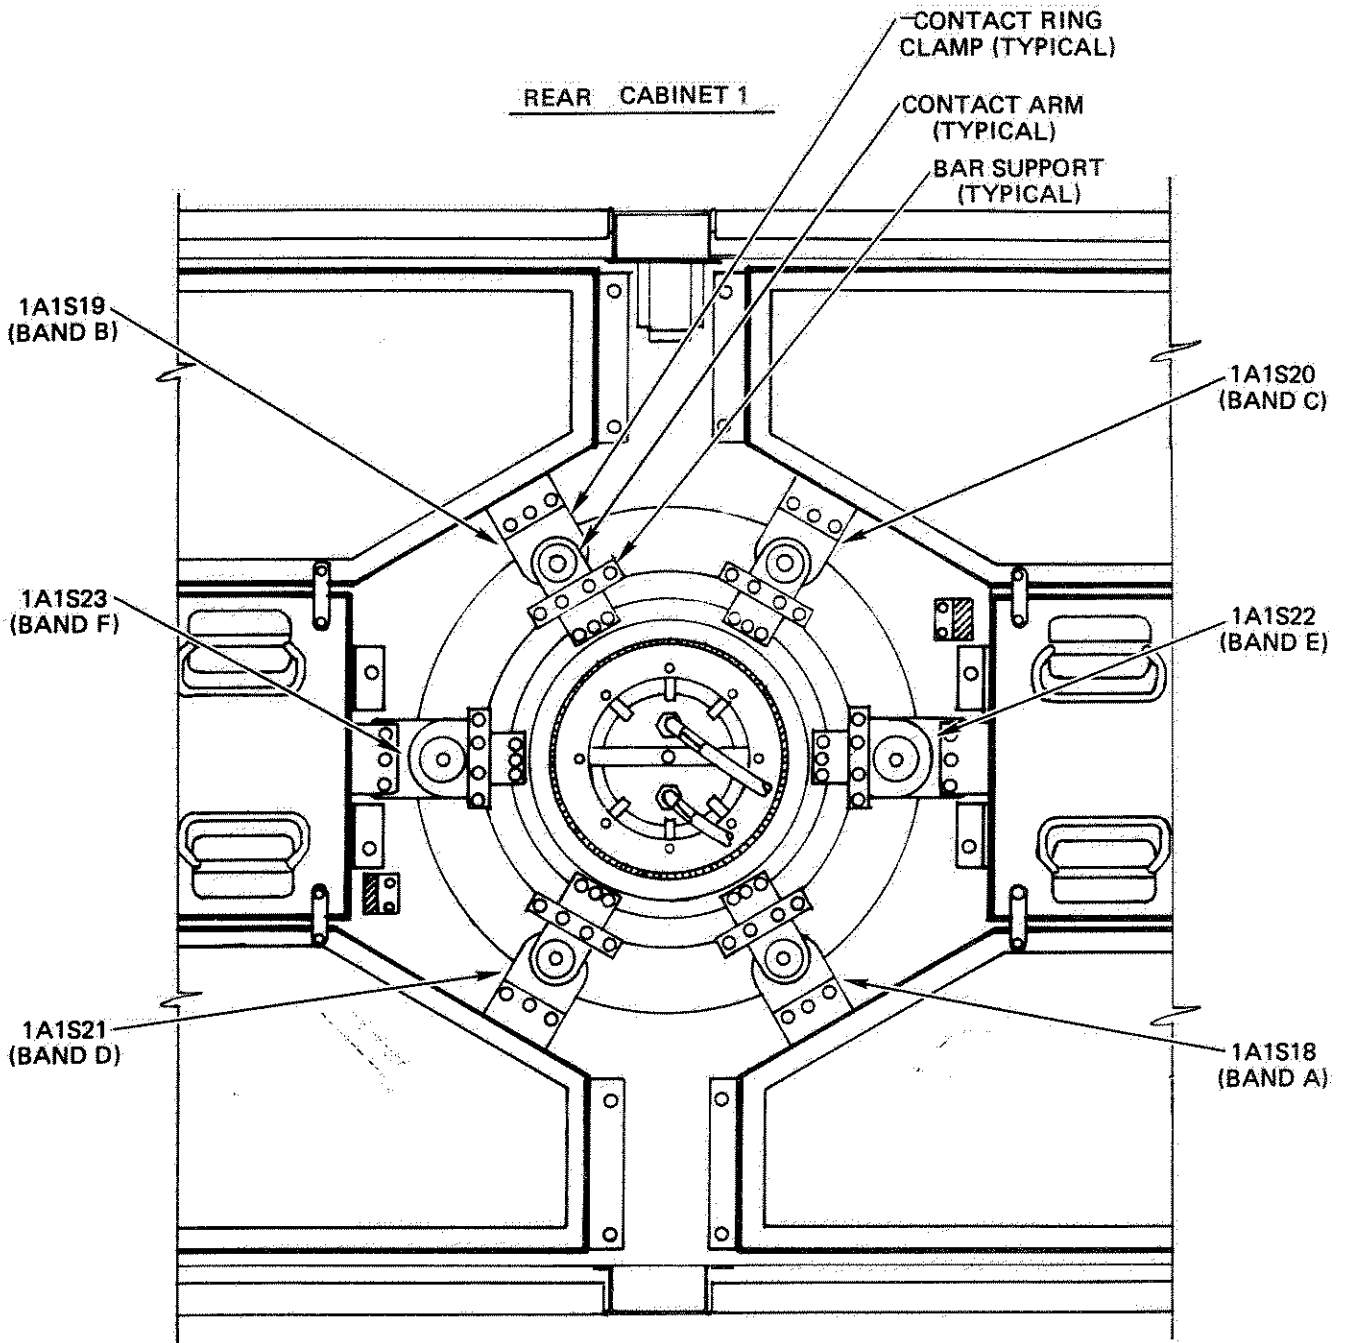

Figure 6-109. PA Band Switch Location, Top View
9. If spacing between upper ring contact and lower ring contact prevents brass gage block from being inserted, loosen set screws on contact ring clamp. Slide lower ring contact down until block can be inserted but fits snugly, with no lateral movement. Keep block in place and re-tighten contact ring clamp set screws. See Figure 6-109 for location of ring contacts.